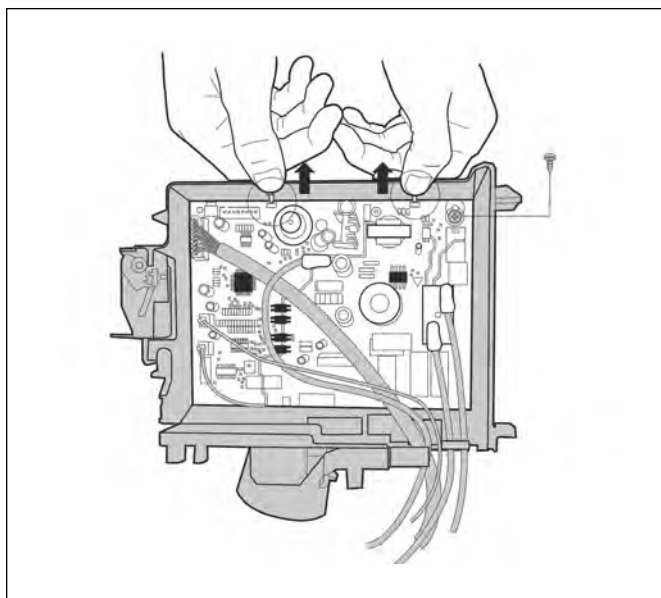

Figure 132
- Step 10: Remove 1 screw and open 2 clips along the direction indicated in Fig. 132.